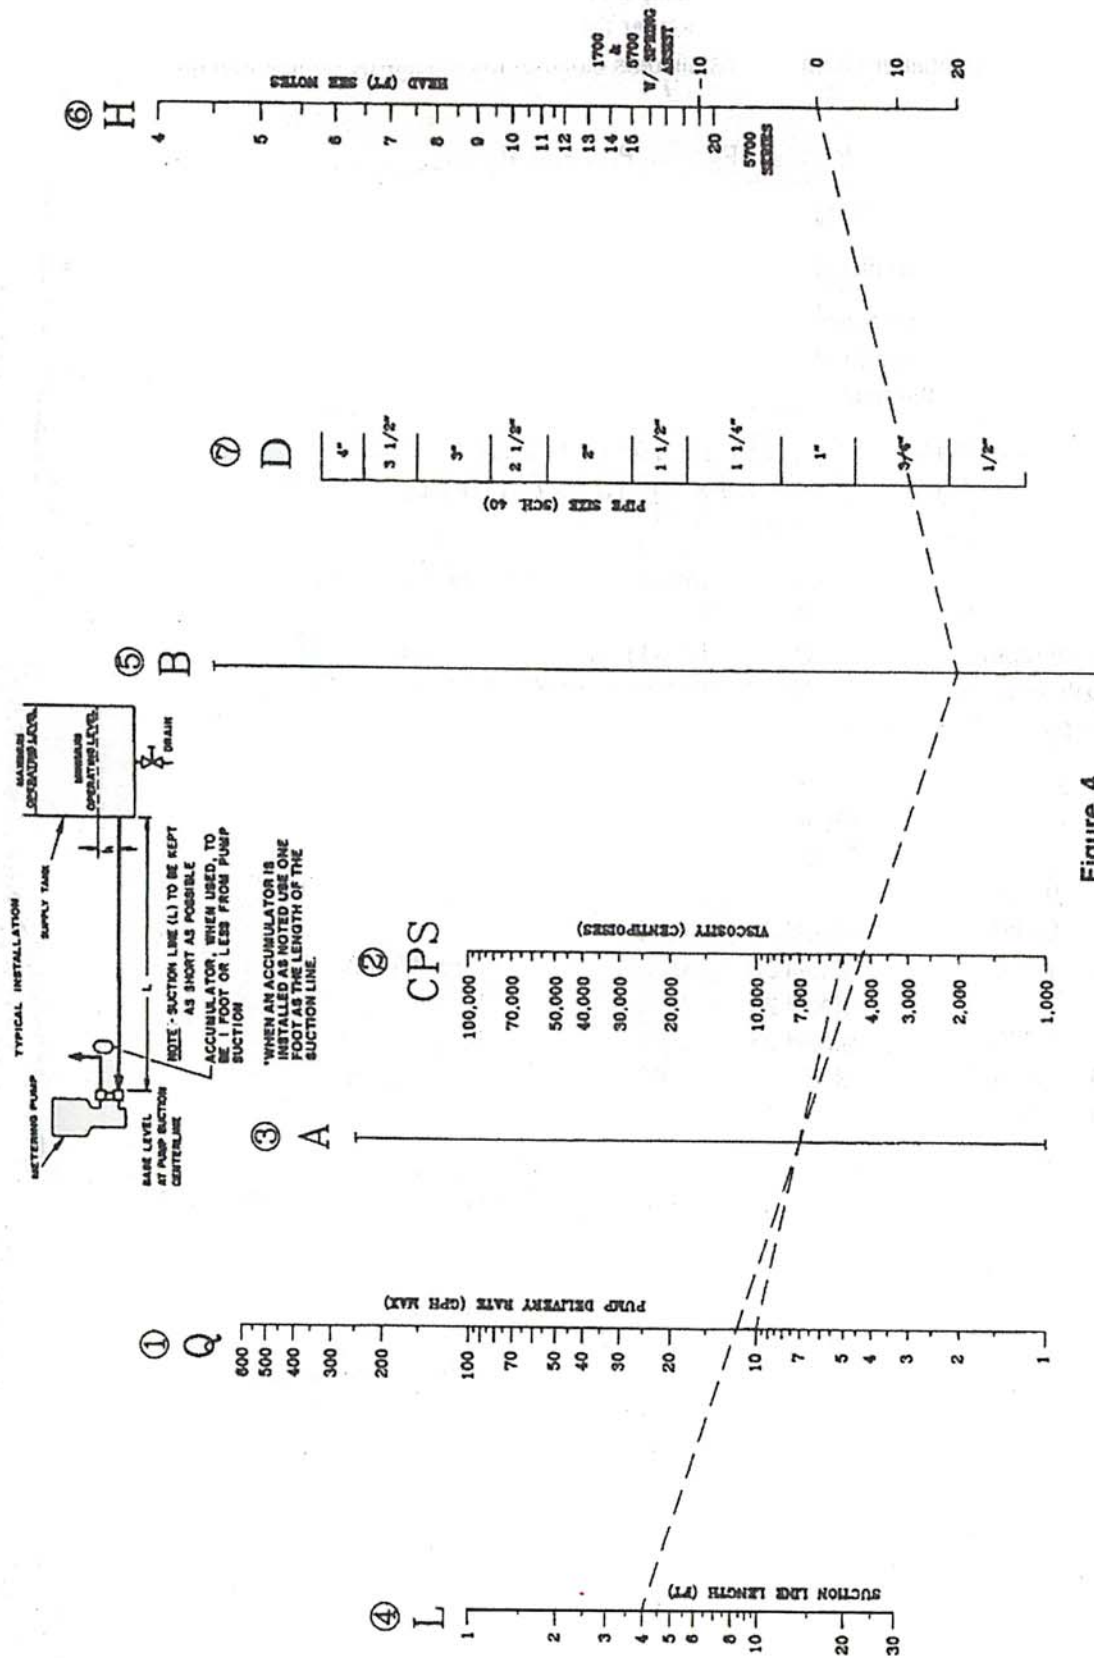

Figure 4
**Refer to Figures 4 & 5 for equivalent pipe length values.*